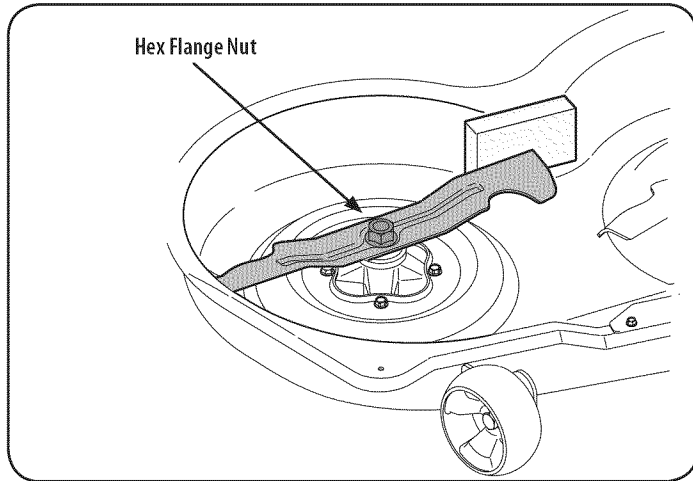

Figure 24
2. Place a block of wood between the center deck housing baffle and the cutting blade to act as a stabilizer. See Figure 24.